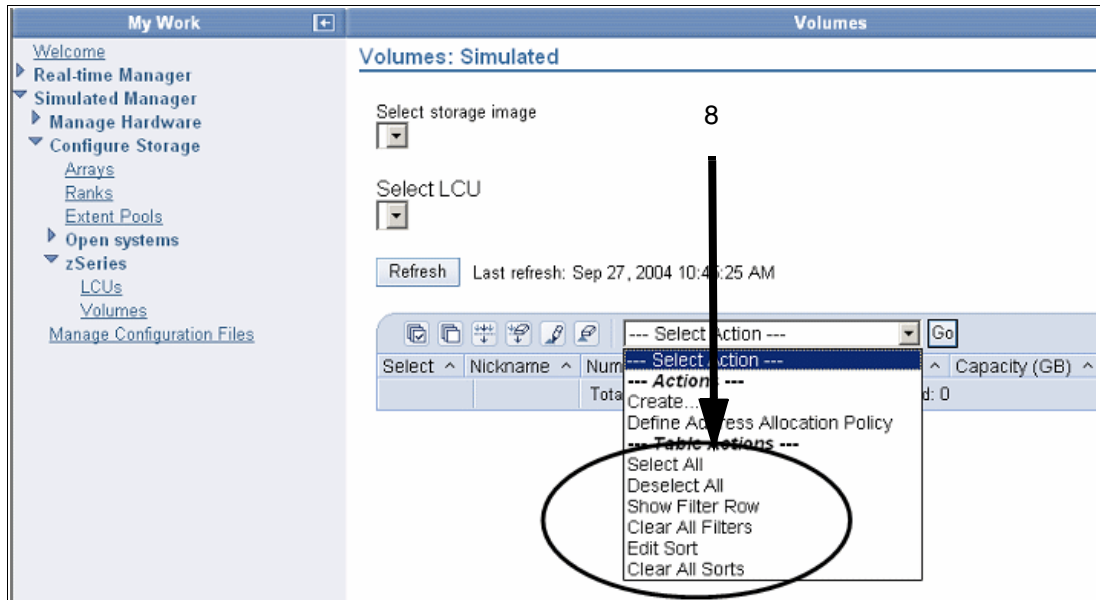

Figure 10-21 Storage unit view of the pull-down
- ▶ Clicking the pull-down (number 8) results in the expanded action list shown in Figure 10-21. Near the center of the list you can access the same selection and filtering options mentioned previously.